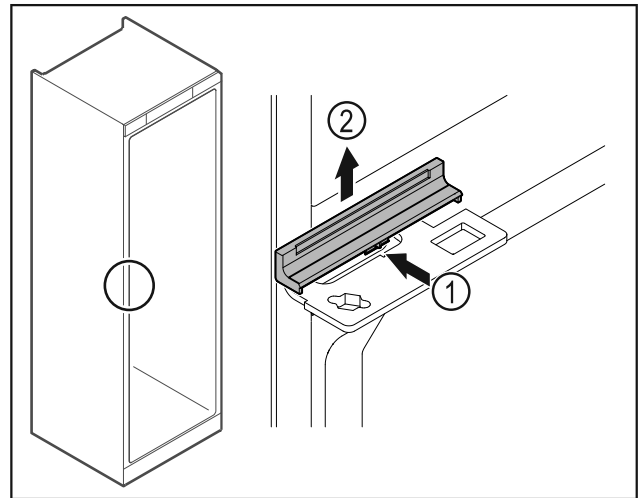

Fig. 46
- ▶ Gently press the middle of the cover Fig. 46 (1) and lift it off Fig. 46 (2).